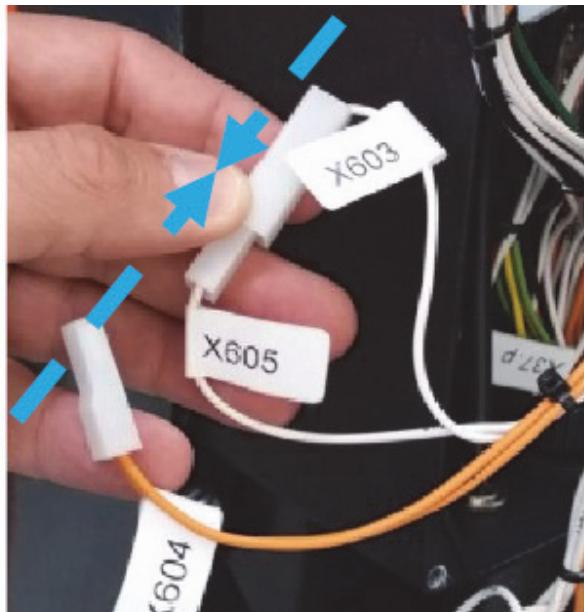

Figure 4-47.
- 12.** Connect connector X603 to connector X605. See *Figure 4-47*.